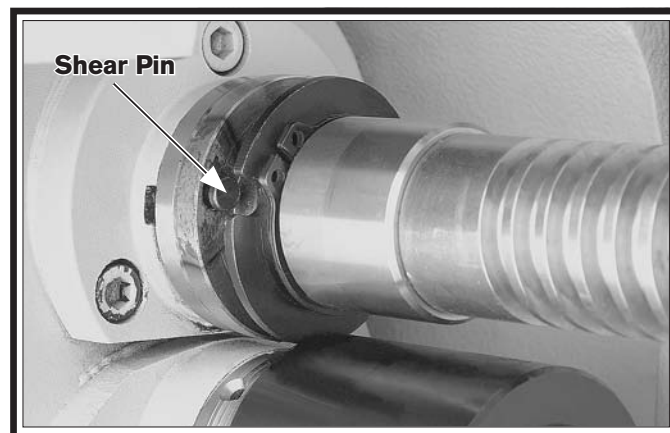

Figure 132. New shear pin installed in bore.
9. Put a drop of oil in the hole, then insert the new shear pin into the bore, as shown in **Figure 132**.